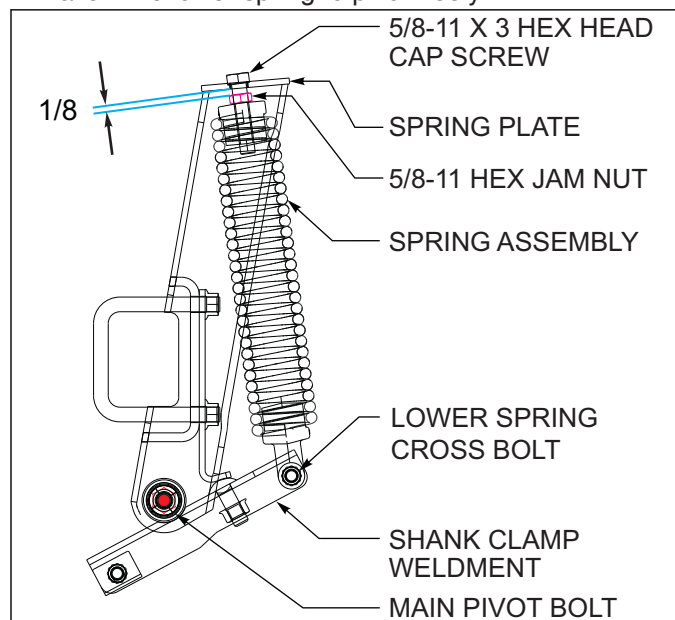

Figure 4-15: Spring Adjustment
3. When adjusting or assembling the spring assembly, tighten the upper spring bolt, but leave approximately 1/8" gap above the spring jam nut **See Figure 4-15**. This will leave the proper clearance for the spring to pivot. Lock the jam nut against the top of the spring, not the top of the mount. Likewise, do not over tighten the lower spring cross bolt. Remove any slack in the bolt, but still allow the lower spring to pivot freely.